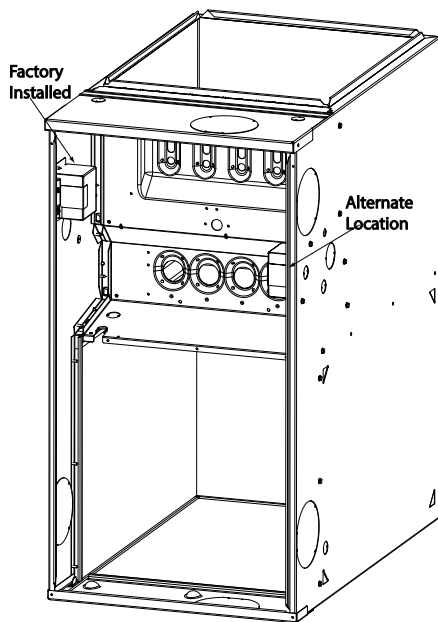

Fig. 27 – Relocating J-Box
1. Remove and save two screws holding J-Box, see Fig. 27.
NOTE: The J-Box cover need not be removed from the J-Box in order to move the J-Box. Do NOT remove green ground screw inside J-Box, see Fig. 27.
4. Remove and save two screws holding J-Box, see Fig. 27.